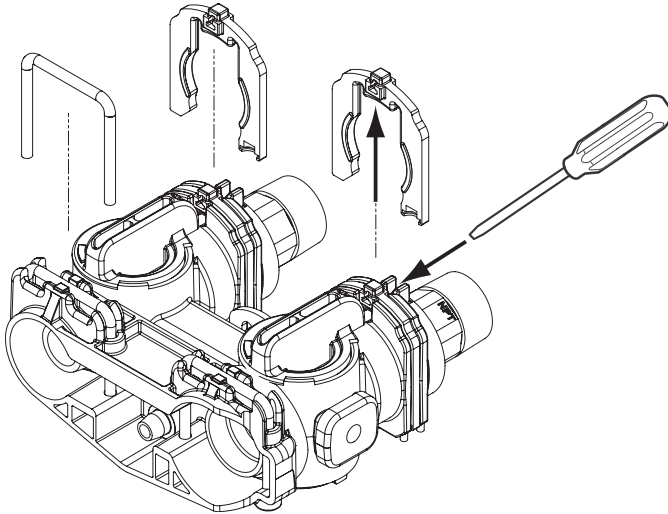

Figure 8 Connector Assembly
1. Locate parts and a roll of Teflon tape. The plumbing adapters should be removed (Figure 8 Connector Assembly).
3. Remove the clip by inserting a flat blade under the top center of the clip and lifting (prying up) (Figure 8 Connector Assembly).